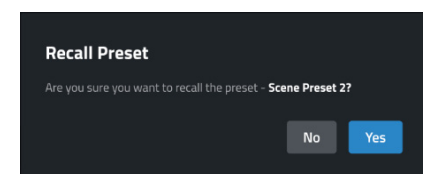

Figure 41: Recall Scene Preset
- 3) Once you click the RECALL button, a window will pop-up to ask for confirmation. See **Figure 41**.